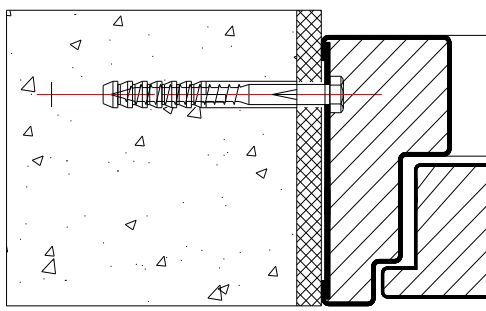

Figure 2.
10. Upon partial fixing of the frame with steel bar ensure minimum projection of bar from fixing flap of the frame (figure 2). Additional fixing of the frame with welding joint is allowed.